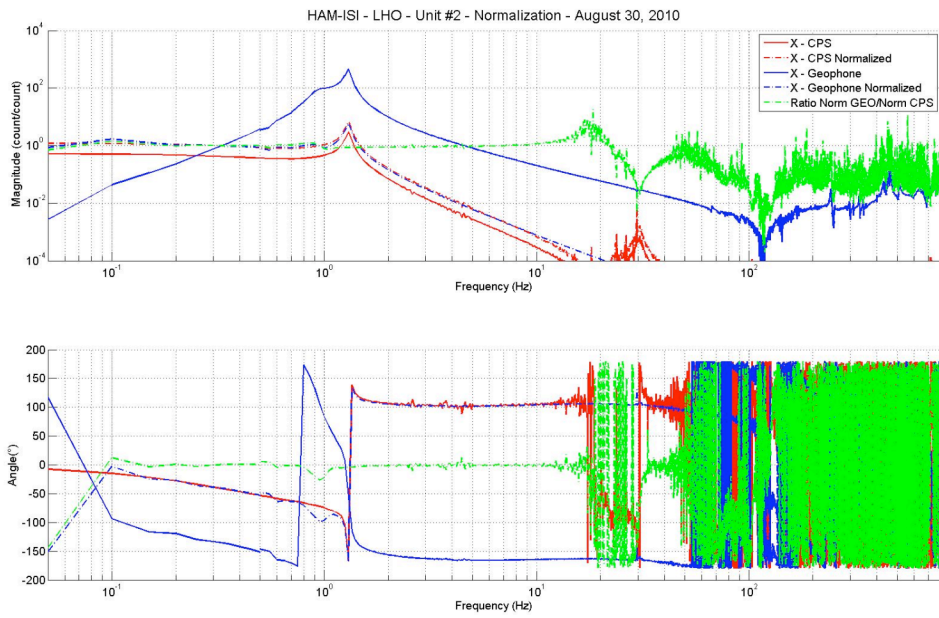

Figure 2 – Normalization
- Geophones theoretical responses are subtracted to the measured transfer functions. Next, the “new” transfer functions are normalized to unity in the frequency band [0.25; 0.45]Hz. Displacement sensors transfer functions are also normalized to unity in the frequency band [0.25; 0.45]Hz. (figure 2)